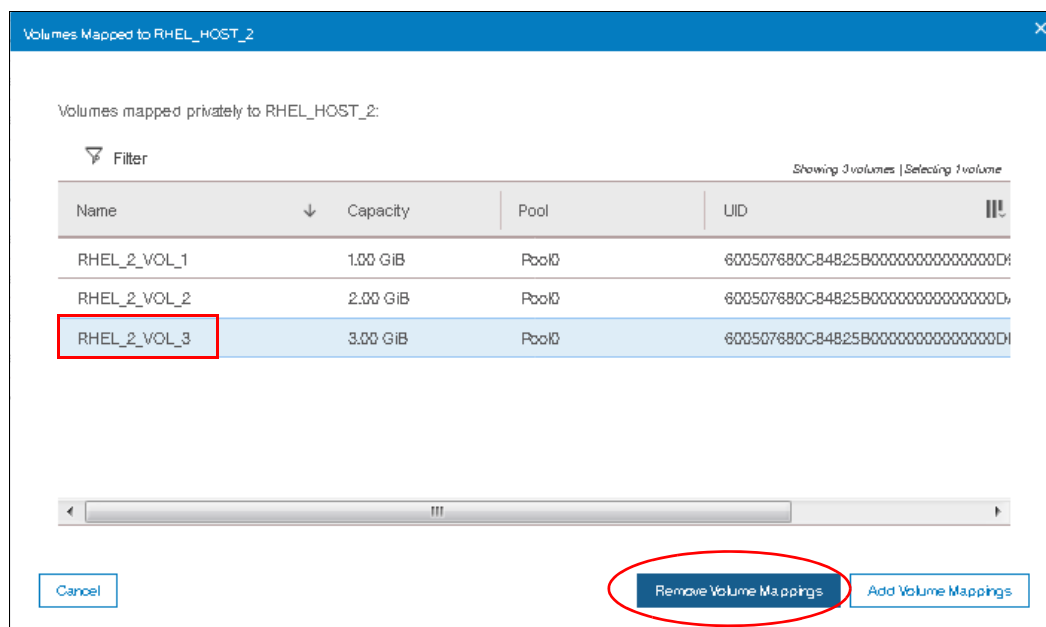

Figure 8-13 Selecting the volume to be unmapped
4. Select the volume which you want to unmap and then click **Remove Volume Mappings** as shown in Figure 8-13.